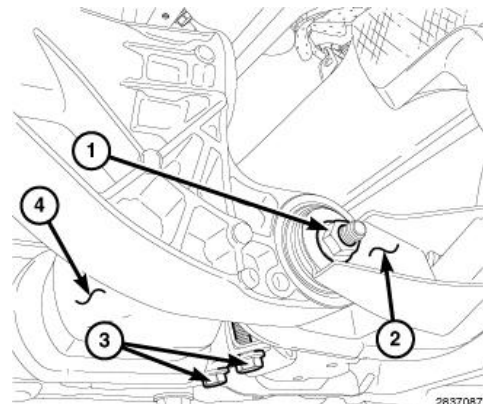

Figure 22 – Front Axle Tube Bushing Nut & Bolt
41. Remove and **DISCARD** the nut and bolt (1) from front axle tube bushing (2) bracket (Figure 22).
42. Remove the bolts (3) from frame dampener (4) (Figure 22).